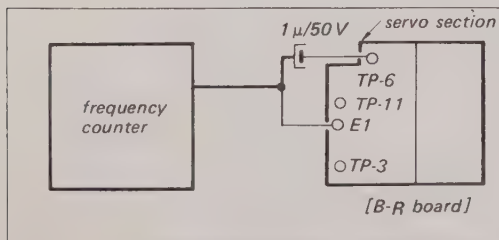

Fig. 7-1. Head drum free-running speed check test setup
3. Connect a counter or oscilloscope to TP-3 or TP-6 on the B-R (Servo) board. See Fig. 7-1.